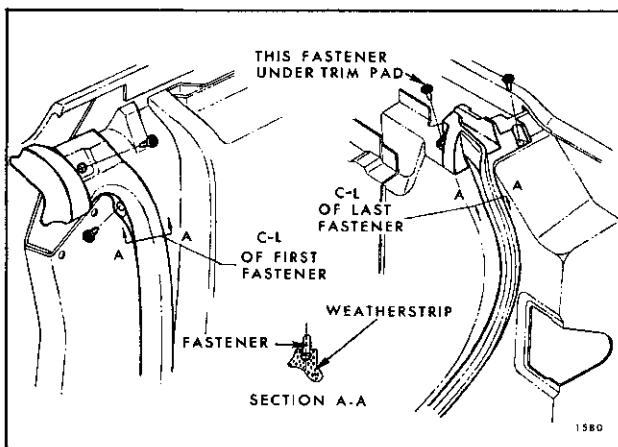

Fig. 6-3—Door Weatherstrip — Attachment Under Trim Assemblies
1. On all hardtop and convertible styles, remove exposed plastic fasteners at beltline. On all hardtop and convertible styles, except "B-39" style front doors, it is necessary to remove door trim assembly to gain access to weatherstrip fastener hidden under trim assembly (Fig. 6-3).